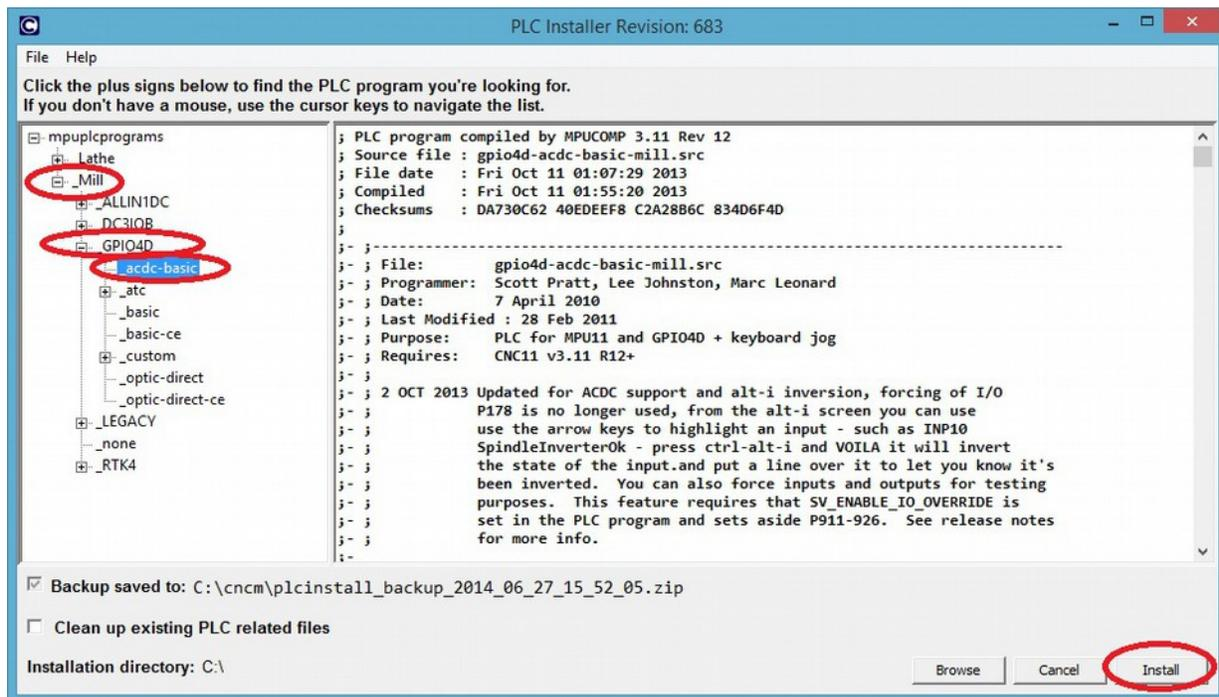

Figure 3.2.7
9. **Network Adapter Setup:** Click the down arrow to display the network adapters that are currently installed and select the network adapter that is connected to the MPU11 as circled in Figure 3.2.7. Click “**Next**” to continue. When asked if you would like to change the IP address for the adapter selected, click “**yes**”.
10. **Installing a PLC program:** After the CNC11 software has been installed, the installer will prompt you to install a PLC program, select “**Yes**”. Click on the “+” signs next to Mill and GPIO4D. Click on “**acdc-basic**”, then click “**Install**” as shown in Figure 3.2.7.